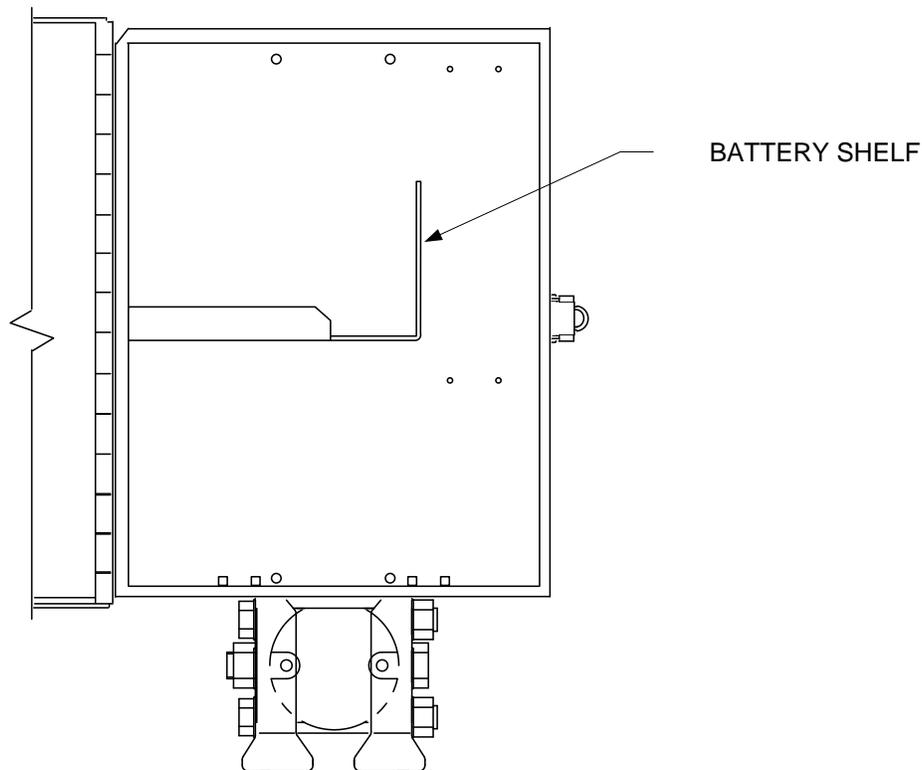

Figure 80: Battery shelf
8. Insert the new battery into the battery compartment. Ensure that the battery terminals are not touching the keeper lip on the shelf or any metal surface inside of the unit (Figure 80).